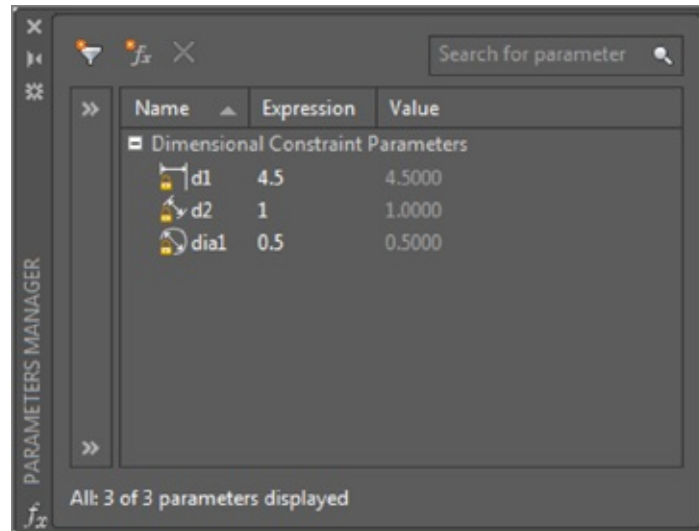

FIGURE 16.17 The Parameters Manager
1. Click the Parameters Manager tool in the Manage panel. The Parameters Manager appears (see Figure 16.17). Notice that the Parameters Manager gives a list of all the dimensional constraints that exist in the drawing.